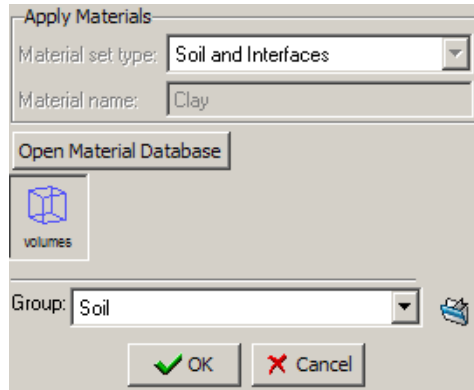

Figure 1.7 The *Apply Materials Database* window
- Double click at the *Materials* item in the data tree. This will open the *Apply Materials* window, see Figure 1.7.